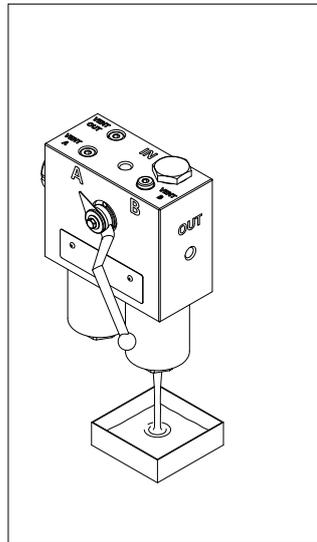

fig. 21
- (Fig. 21) Drain the operating fluid from the bottom of the bowl into the collection vessel